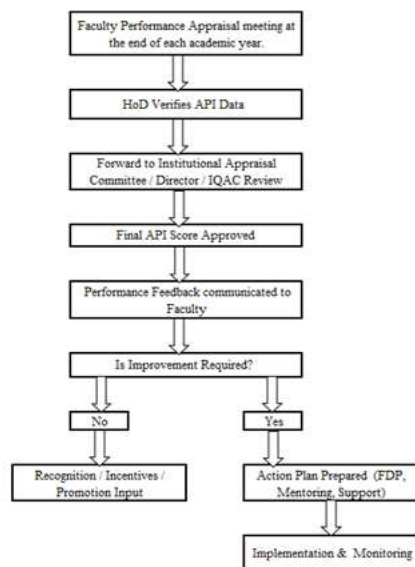

Figure 9.13.1: Faculty Performance Appraisal and Feedback Mechanism
R. C. Patel Institute of Technology (RCPIT), Shirpur has established a structured and transparent Faculty Performance Appraisal and Development System (FPADS) to enhance teaching effectiveness, research productivity, professional growth, and institutional contribution. (Refer Figure 9.13.1)The system ensures continuous faculty development through systematic evaluation, feedback, and targeted improvement initiatives. R. C. Patel Institute of Technology, Shirpur follows a structured self-appraisal system for faculty assessment comprising three categories: (Refer Figure 9.13.2)